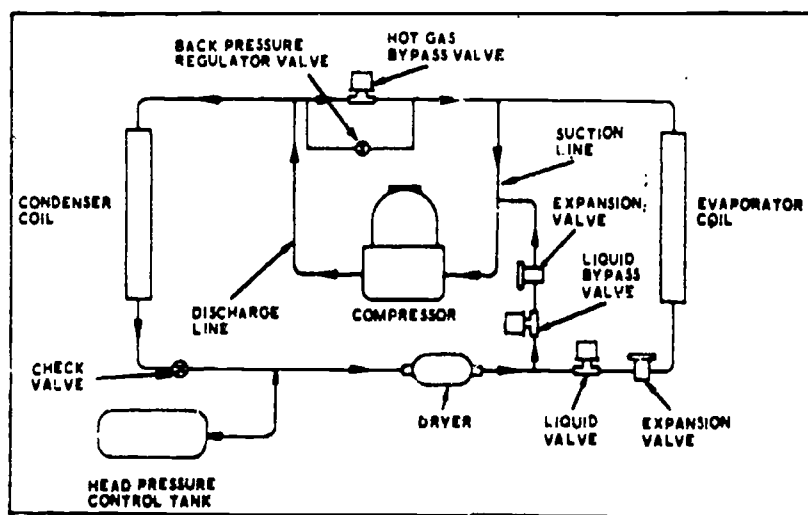

Fig 4-11. Bypass cycle.
(2) Bypass cycle (fig 4-11). When the temperature of the conditioned air falls below the thermostat setting, the circuit which controls the refrigerant valves is energized. This causes: